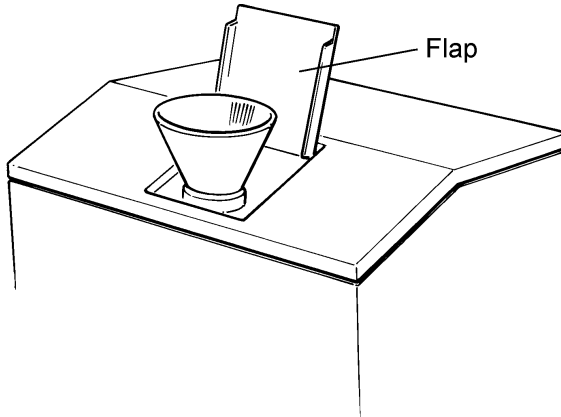

Figure 9 The Dewar Opening with the Funnel Inserted
3. Place the small funnel supplied with the microscope in the opening in the red detector dewar (Figure 9).